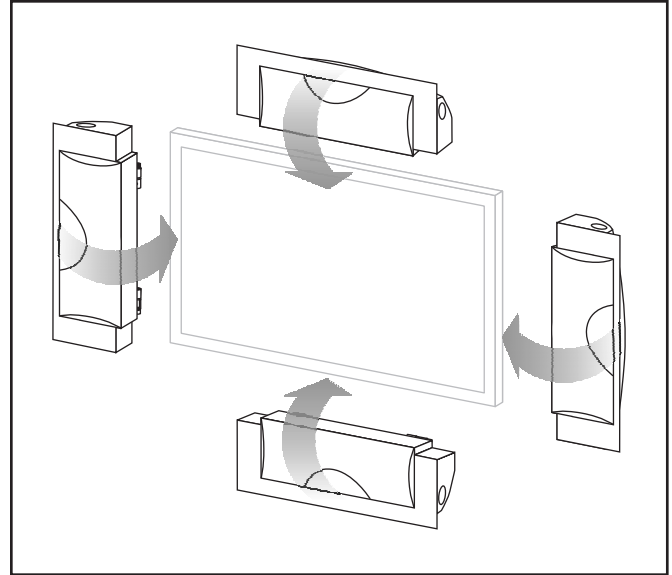

**Figure 22.** Using a level, square the wall bracket and install the screws.
- 6 Mount the wall bracket to the center wall anchor (or pilot hole) using a 1" Phillips head screw driven through the wall brackets center point. Do not fully tighten the screw—the bracket must be leveled before installing the remaining screws (see figure 22).
- 7 Using a level, square the bracket and drive the four remaining 1" Phillips head screws into the wall anchors (or pilot holes). Do not fully tighten the screws (see figure 22).
- 8 Using a level, make sure the bracket is level and tighten all five screws (see figure 22).